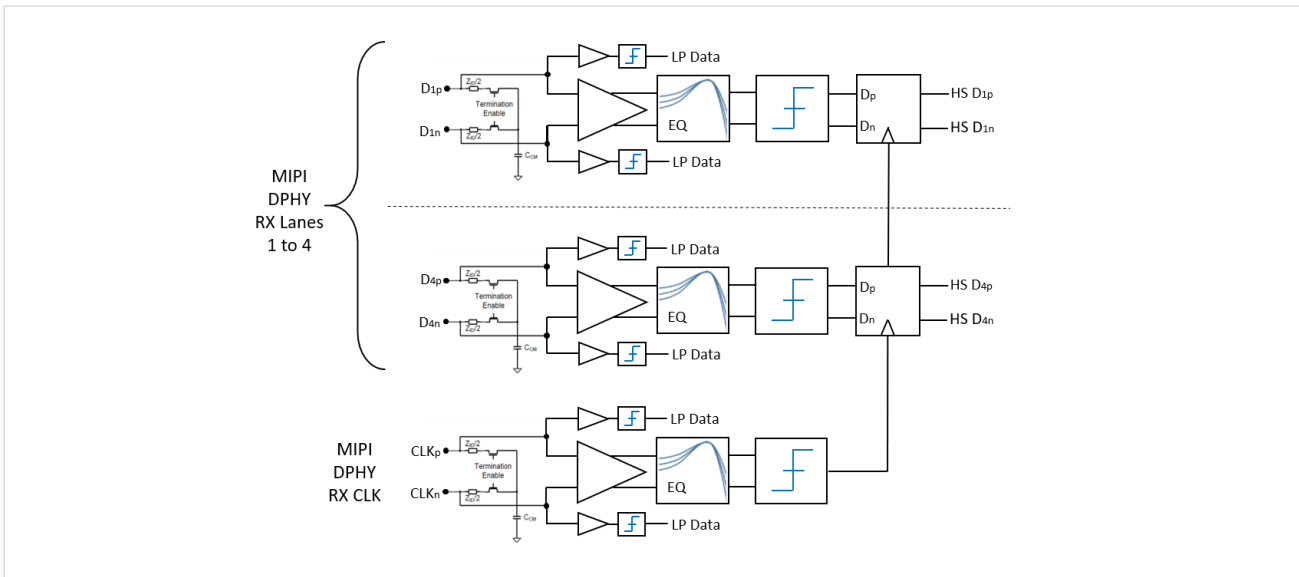

Figure 2: SV5C-DPRX receiver detail illustrating LP detection, automatic termination switches, and high-speed receivers.
The SV5C-DPRX MIPI D-PHY Analyzer is a complete, integrated, 4-lane D-PHY receiver providing the analog front-end circuitry for D-PHY as well as a complete protocol back-end. As shown in Figure 2, each lane contains low power (LP) programmable threshold voltage detectors, dynamically controlled termination resistors and fully differential high-speed (HS) receivers. The real-time behavior of the DPRX enables broad acquisition capabilities for physical-layer and protocol-layer testing. The analyzer also supports ALP-Mode operation.